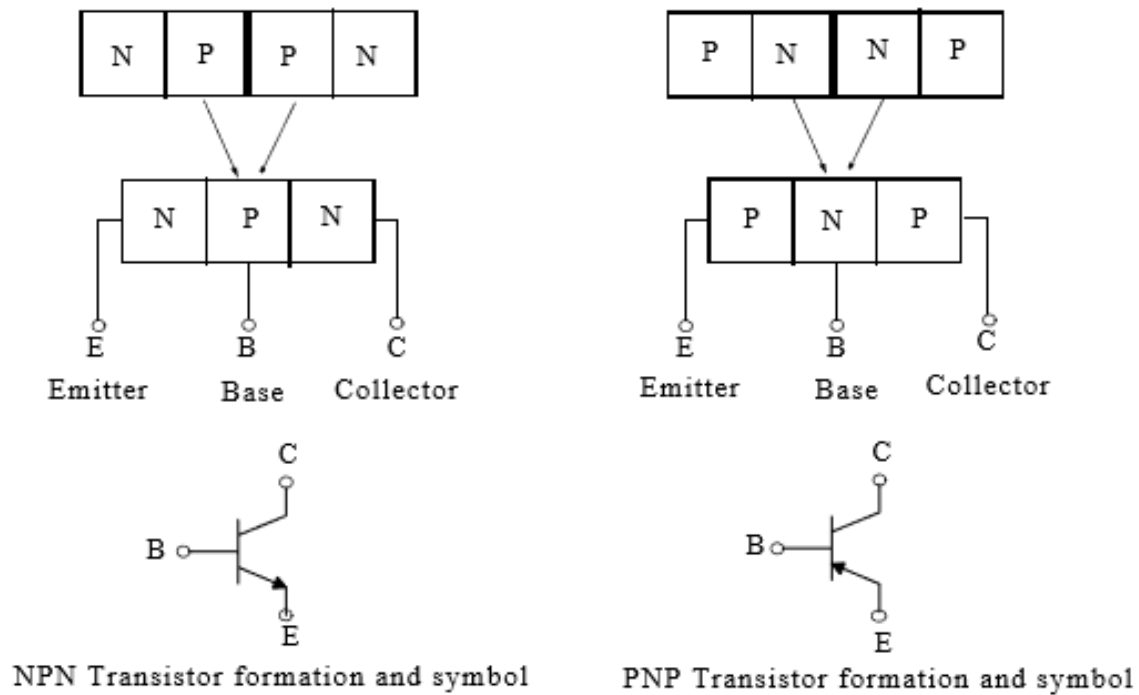

Figure 1.10: NPN and PNP transistor construction and symbols
Transistors are three terminal devices that can be formed with the combination of two separate P-N junction materials into one block as shown in Figure 1.10.
As shown in Figure 1.10, an NPN transistor is formed with two P-N junctions with the P-type material at the center, whereas a PNP transistor is formed with two P-N junctions with the N-type material at the center. The three terminals of a transistor, whether it is an NPN or PNP transistor, are identified as the emitter, the base, and the collector. Geberally there are three different configurations of transistors and they are common base (CB) configuration, common collector (CC) configuration and common emitter (CE) configuration.